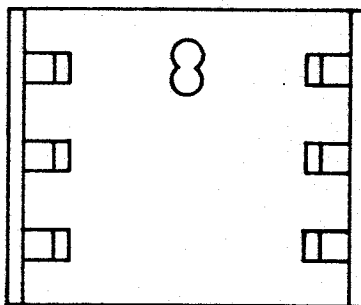

FIGURE 2
- [ ] Place FOUR (4) 7805 regulators on the board so that the mounting hole in the regulator is in line with the hole in the board. Mark the leads for proper bending to match the holes in the board (allow for bend radius).
- [ ] Install and solder THREE (3) 7805 regulators at locations X1, 2, and 3 so that the following order results from back to front: screw, PC board, heatsink, regulator, lock washer, and nut. Be sure the regulators and heatsinks lay flush against the board and then solder all regulator leads.
- [ ] Install and solder ONE (1) 7805 regulator at location X4 using the special heatsink provided (This heatsink has a double-hole drilled in it. Refer to Figure 2 for further information) so that the following order results from back to front: screw, PC board, heatsink, regulator, lock washer, and nut. Be sure the regulator and heatsink lay flush against the board and then solder all regulator leads.